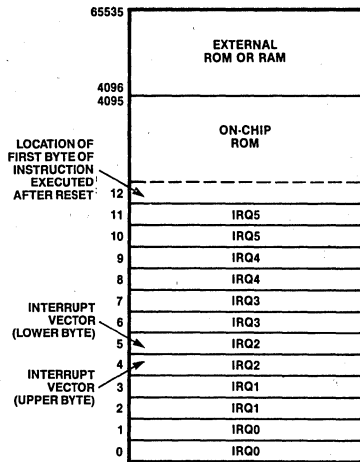

Figure 4. Program Memory Map
**Program Memory.** The 16-bit program counter addresses 64K bytes of program memory space. Program memory can be located in two areas: one internal and the other external (Figure 4). The first 4096 bytes consist of on-chip mask-programmed ROM. At addresses 4096 and greater, the Z86C11 executes external program memory fetches.